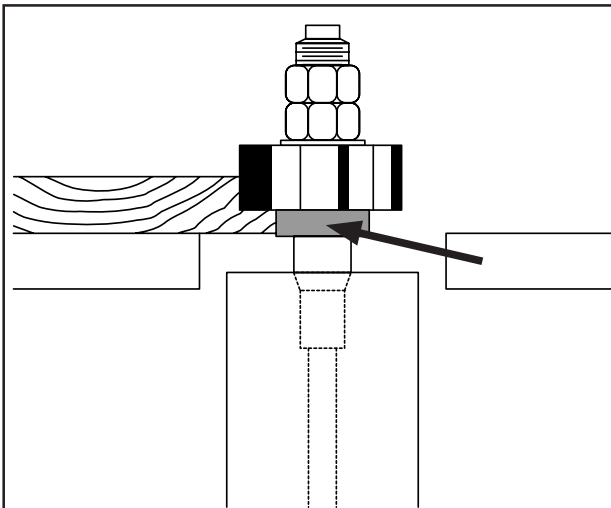

Figure 35. Rub collar installed below cutter.
1. **Rub collar below the cutter:** When the rub collar is used below the cutter as shown in **Figure 35**, the progress of the cut can be observed. However, any unintentional movement may lift the workpiece into the cutter, damaging your work and creating a dangerous situation. We DO NOT recommend this type of setup!